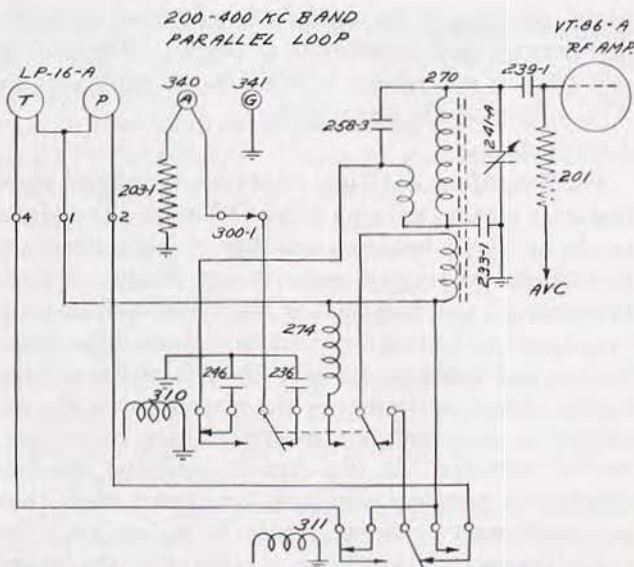

FIGURE 38—RADIO RECEIVER BC-225-A OR BC-352-A, R-F INPUT CIRCUIT, FUNCTIONAL DIAGRAM
3.3.2.1 Loop Input:—The band switch is wired so that the loop is connected for use in the 200-400 kc. band only. When the radio receiver is set for operation on this band, either parallel or transverse loop, or the open antenna may be selected. Reference to Figure 38 shows antenna relays 310 and 311 unenergized and in position for reception on parallel loop. Under these conditions, the open antenna is grounded through 236. So that the tuning of transformer 270 will not be affected by removing the open antenna capacity in switching to loop operation, a capacitor (246) is connected across the